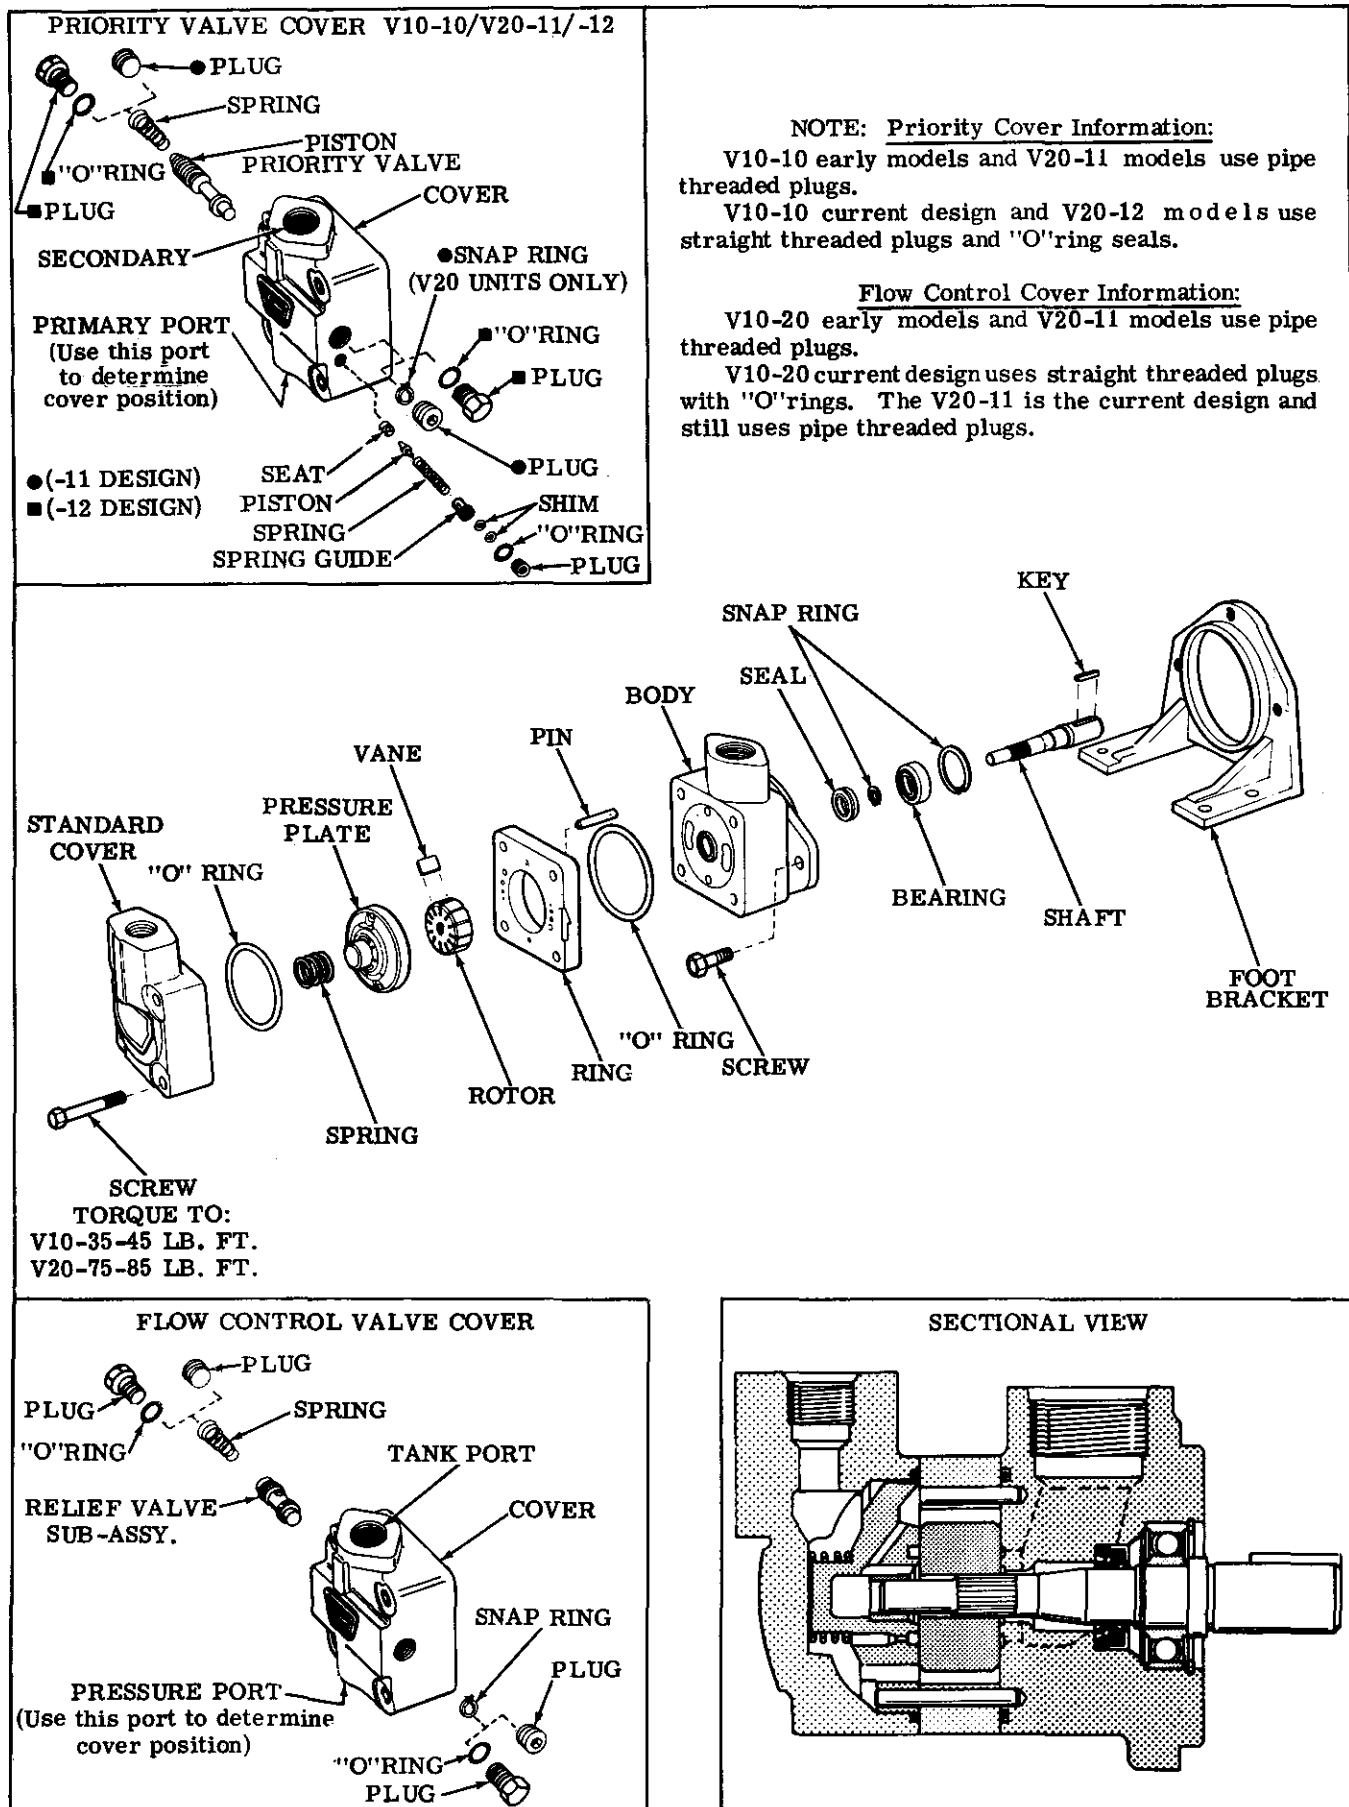

Figure 8
Pump bearings are pressed in the bodies or on the shafts and should not be removed unless defective. Figure 8 is an exploded view which shows the proper relationship of the parts for disassembly and assembly. Refer to Figure 1 and Figure 8 for the correct assembled relationship of the parts.
1. Disassembly of Basic Pump-See Figure 8. If a foot bracket is used, remove before dismantling the pump. Clamp the pump body in a vise (not too
2. Disassembly of Flow Control and Relief Valve Covers - See Figure 8. Remove the plug (and "O" ring latest design V10 models) from the snap ring side of the cover. Then remove the plug (and "O" ring latest design V10 models), that releases the spring and relief valve S/A. Insert a suitable tool from the snap ring end of the bore. Slide the relief valve S/A from the cover. Remove the snap ring with care - DO NOT scratch the bore.
3. Disassembly of the Priority Valve Cover - See Figure 8. Remove the plug (and "O" ring latest design V10/V20 models) and spring from one end of the priority valve bore, and the plug (and "O" ring latest design V10/V20 models) from the other end of the bore. Insert a suitable tool into the snap ring end of the bore (Snap ring used with pipe thread plugs only) and slide the priority valve spool from the cover. If the snap ring exists, remove it from the cover. Disassemble the relief valve by removing the plug spring poppet and shims. On later designs, a spring guide is used. See Figure 8. DO NOT remove the seat unless inspection of the poppet contact area reveals a problem in the seat area. If removal of the seat is required, thread the seat with a suitable tap approximately 3/8 inch into the seat. Thread a long bolt into the seat and pull the bolt and seat from the bore with a small gear puller.
1. Assembly of Flow Control Cover - See Figure 8. Assemble the snap ring in place within the bore, (early design only) seat firmly in the groove. Insert the valve in the bore, small land first. Then install the spring and both plugs. Use new "O" rings if straight thread plugs are used.
2. Assembly of priority valve cover - See Figure 8. If the relief valve seat was removed, a new seat must be pressed into the body. Lubricate and insert the new seat chamfered end first into the cover open-
Priority Valve - Install the snap ring within the priority valve cover bore, (early V20 series only); make sure the snap ring is seated within its groove. Insert the priority valve spool, small land first, into the bore. Install plugs at each end of the bore and secure. Refer to Figure 8 for spool orientation.
3. Assembly of Pump - See Figure 8. Begin assembly by pressing the shaft into the front bearing while supporting the bearing inner race. Install the small snap ring on the shaft.
Place the pressure plate on the locating pins and flat against the ring. Place the spring over the pressure plate, and then install the cover with the outlet port in the correct position. Tighten the cover screws to the torque shown in Figure 8. Rotate the shaft by hand to insure that there is no internal binding. Install the shaft key.